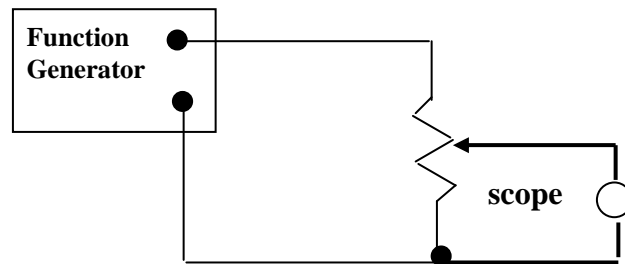

Figure 1: AC level control.
function generator output and switch between AC and DC coupling. Observe the effects on the scope. Figure 1 shows a sine wave with such an offset.
2. *AC level control*: Use a potentiometer to attenuate an AC signal as shown in Figure 1. This is the essence of an audio volume control. Use two inputs: channel 1 for the input from the pulser and channel two for the attenuated output. Paste a copy of the display with output attenuated by a factor of into your notebook.